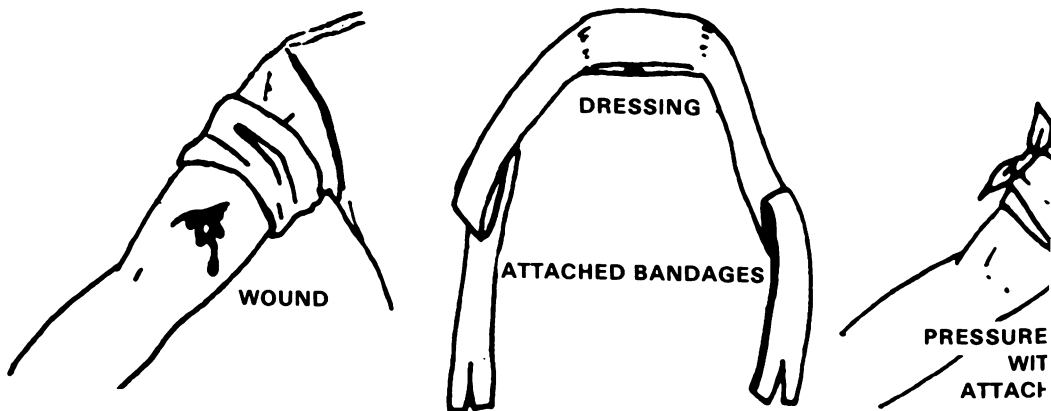

Figure 1. Application of first-aid dressing.
- b. Apply a first aid dressing according to the instructions on the dressing package (fig 1).